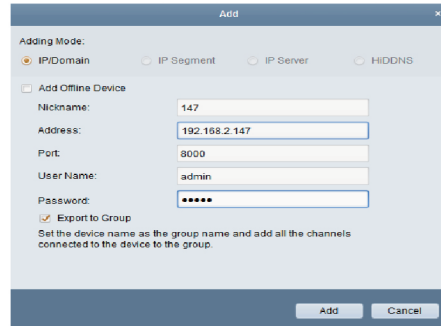

Figure 3 IP add interface
Step 3 : Select one IP, click "Add to Client" , you can see a interface (Figure 3). Input an alias (choose a random name), user name and password (the user name and password of the IP). Tick "Import to Subgroup" , then click "Add" .